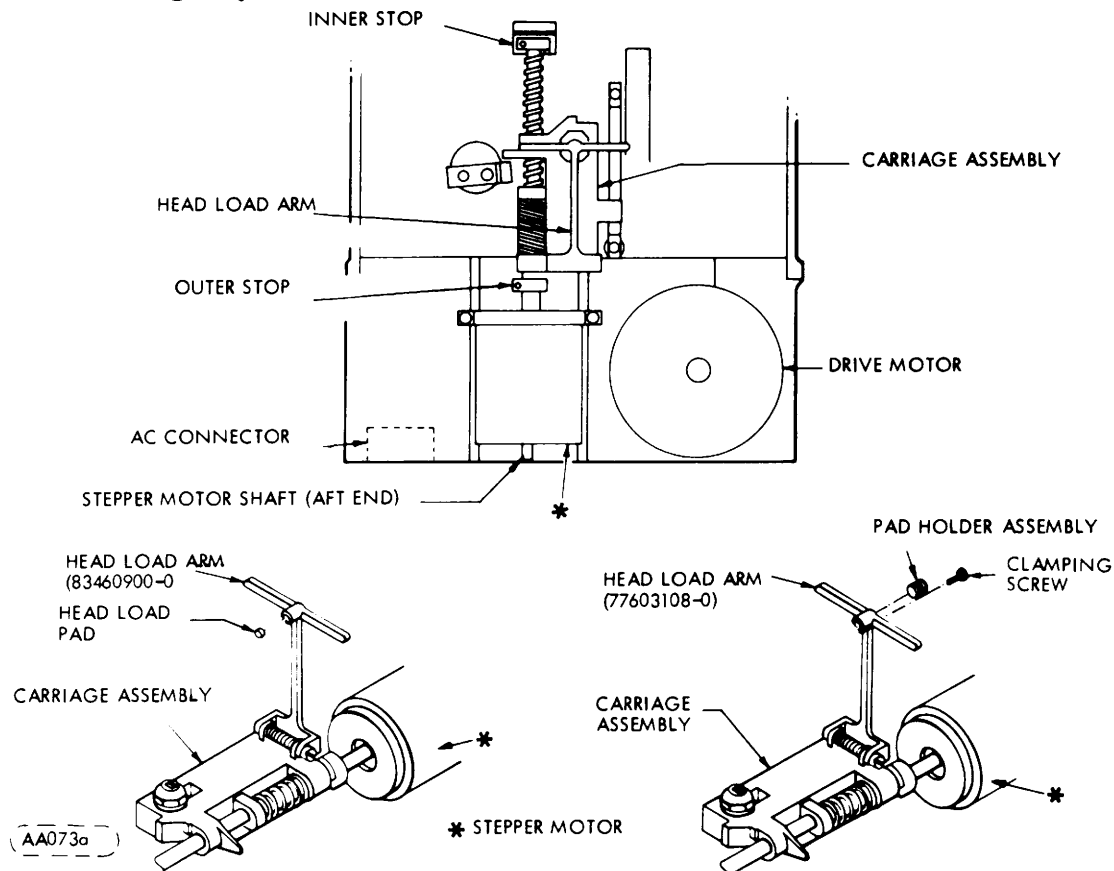

Figure 6-20. Head Load Pad Replacement Illustration
- b. Move the carriage assembly to its rear most position (toward the stepper motor) by turning the aft part of the stepper motor shaft (Figure 6-20). This will provide clearance for lifting the head load arm.
- c. Lift the head load arm until the head load pad is visible (see Figure 6-20).
- d. If head load arm is a 77603108 (Figure 6-20) proceed to step h, else go to next step.